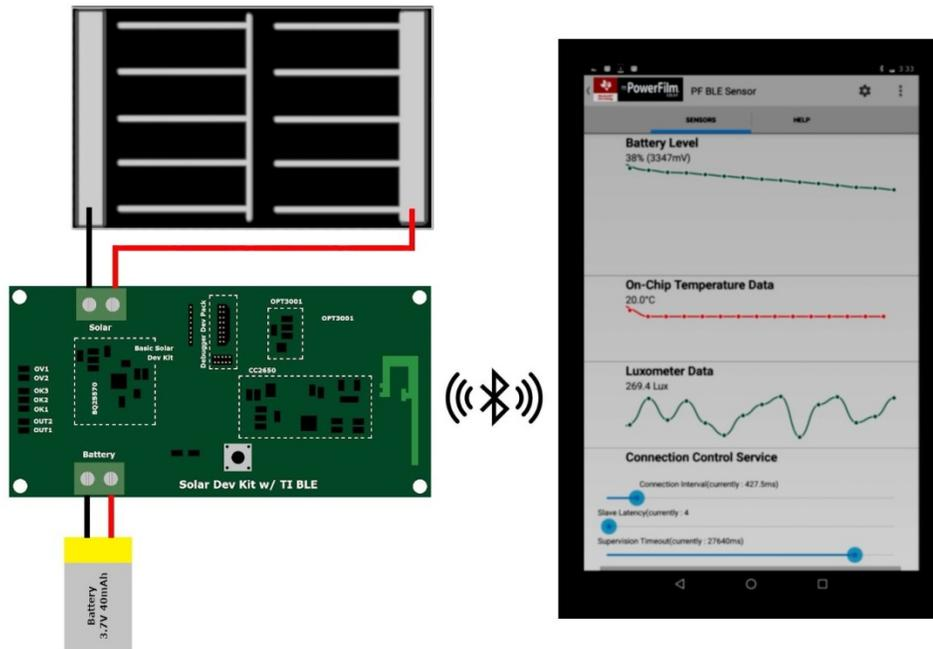
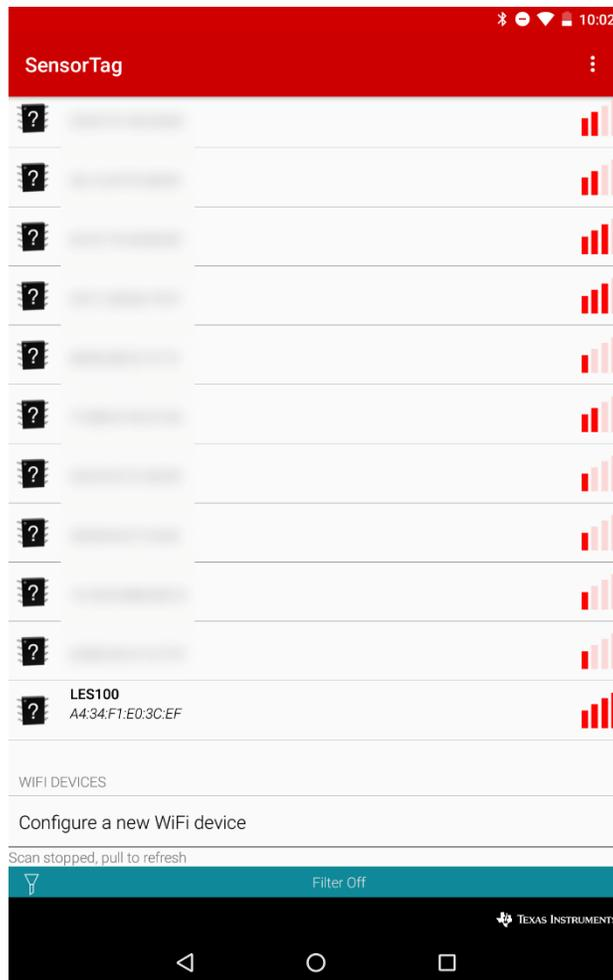

Figure 2, Connected System
Figure 5, TI SensorTag Home Screen
Refer to Figure 2 to help find noted location on assembled circuit board. References to PFDEV-TI Data Monitor Figures 5,6, and 7 are located in the section "PFDEV-TI Data Monitor Notes".
- a. From the home screen click Scan (Figure 5). Bluetooth devices found will be displayed on the screen.
Scroll down to enable Bluetooth scanning. (Figure 5).